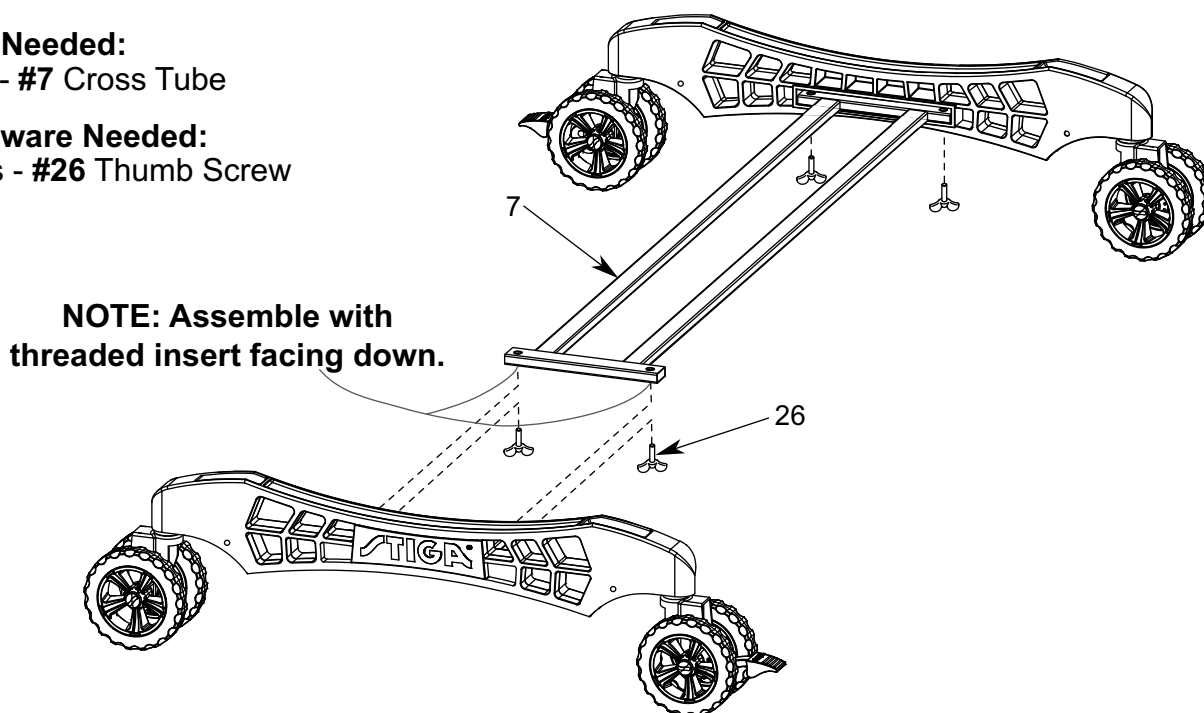

Figure 2
2. Attach Cross Tube (#7) to Caster Beam Assemblies (#8) using four Thumb Screws (#26) as shown in **FIGURE 2**.